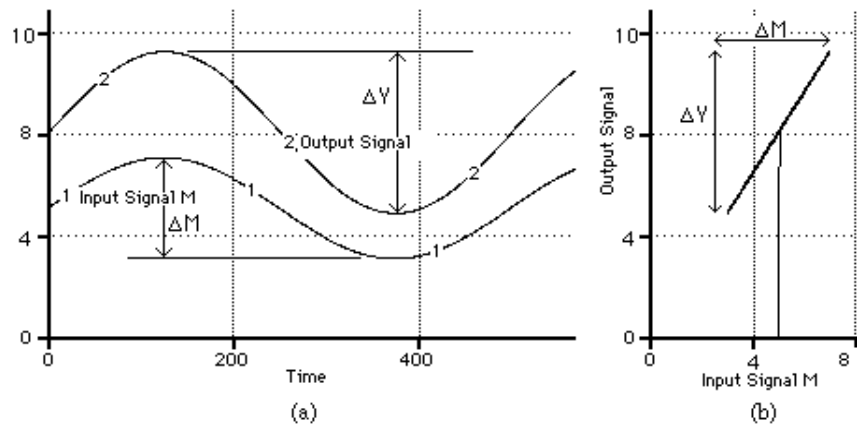

Figure 14. Very low frequency sine response graphs
When you complete a run you will get a graph similar to that in Figure 14. The level-control system will get a different graph due to the "reverse" nature of the system.
The amplitude ratio (AR) is the ratio of the vertical height to the horizontal height of the Lissajous figure. When the input and output are exactly in phase, the Lissajous figure is a single line as in Figure 14(b). This means the phase shift is 0.